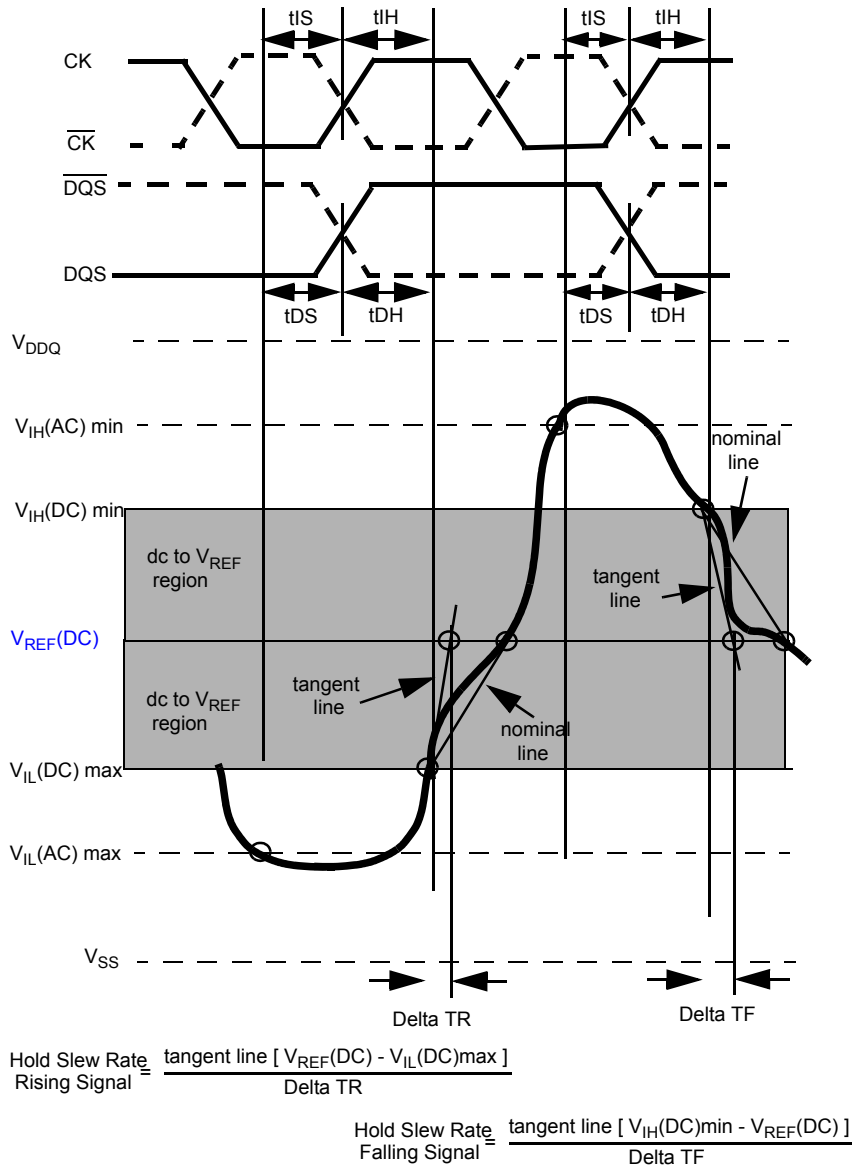

Figure 24 - Illustration of tangent line for hold time t_{DH} (for DQ with respect to strobe) and t_{IH} (for ADD/CMD with respect to clock)
Hold (tIH) nominal slew rate for a rising signal is defined as the slew rate between the last crossing of V_{IL}(DC)max and the first crossing of V_{REF}(DC). Hold (tIH) nominal slew rate for a falling signal is defined as the slew rate between the last crossing of V_{IH}(DC)min and the first crossing of V_{REF}(DC). If the actual signal is always later than the nominal slew rate line between shaded 'dc to V_{REF}(DC) region', use nominal slew rate for derating value (see Figure 24). If the actual signal is earlier than the nominal slew rate line anywhere between shaded 'dc to V_{REF}(DC) region', the slew rate of a tangent line to the actual signal from the dc level to V_{REF}(DC) level is used for derating value (see Figure 26).